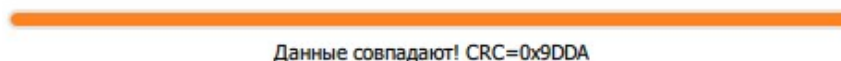

Figure 6 - CRC of the memory data
3. The result will be displayed below the current progress status bar. The CRC of the memory data will be displayed too. (Figure 6).